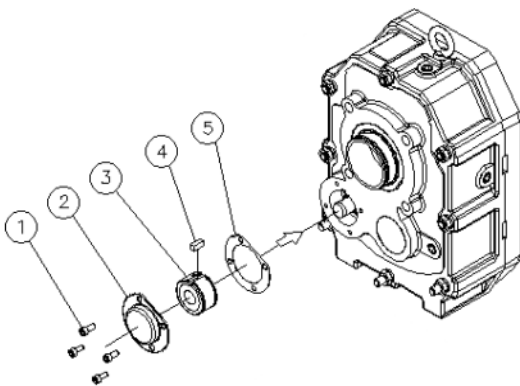

Figure 1: For sizes SCSMR2, SCSMR3, SCSMR4, SCSMR5
4. Refer to Figures 1 – 3 for appropriate reducer size installation components.